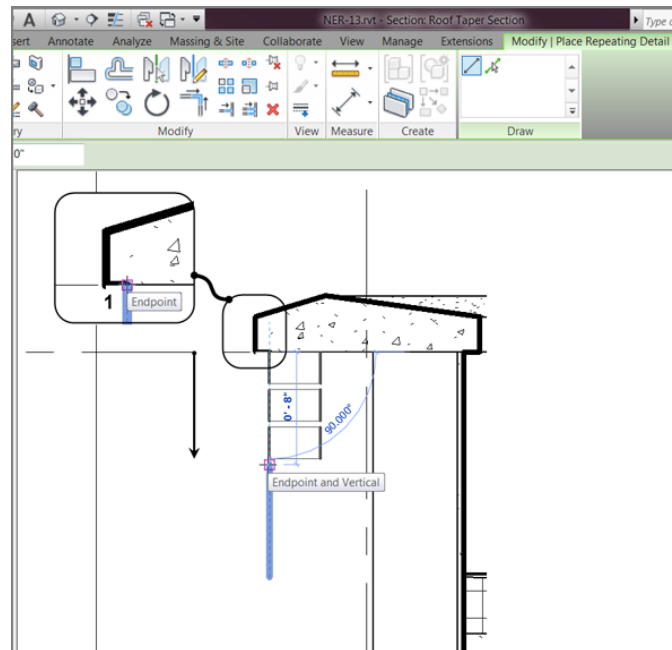

FIGURE 12.9: Adding the repeating detail based on the points shown
3. Pick the point labeled 1 in Figure 12.9.
5. The brick is facing the wrong side. Press the spacebar to flip the brick into the wall (see Figure 12.9).
6. Pick the endpoint 8" (203mm) down, as shown in Figure 12.9, so that three copies of the brick section are placed.